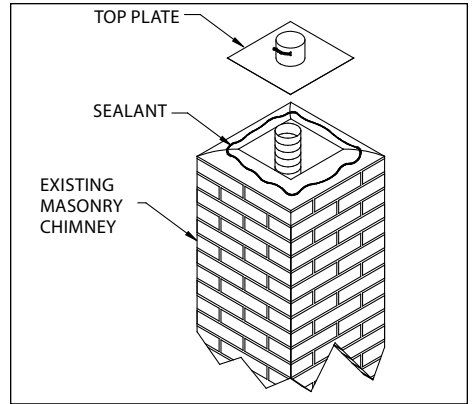

Figure 15
1. Slide the Top Plate over the Flex Liner and seal the Top Plate to the masonry chimney using a bead of non-hardening sealant around the top of the chimney and underside of the Top Plate (**Figure 15**).